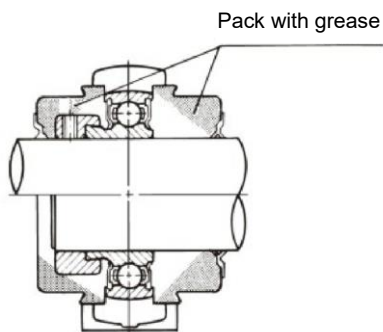

Fig. 5.1
- * Apply an amount of grease corresponding to 1/3 to 1/2 of the volume of the space inside the cover to that space. (Fig. 5.1)